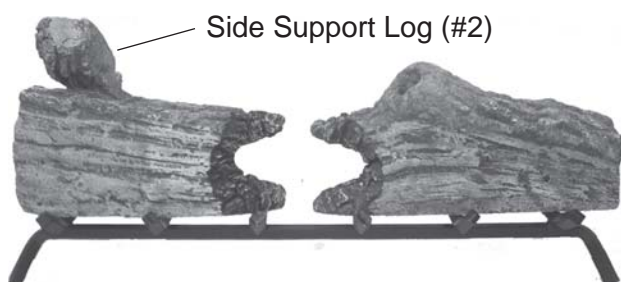

Figure 114 - Placing Side Support Log (#2) on Top Left of Log #1A
4. Place front end of Side Support Log #2 on top left of Log #1A. Rest other end of Log #2 on rear grate bar. *See Figure 114.*